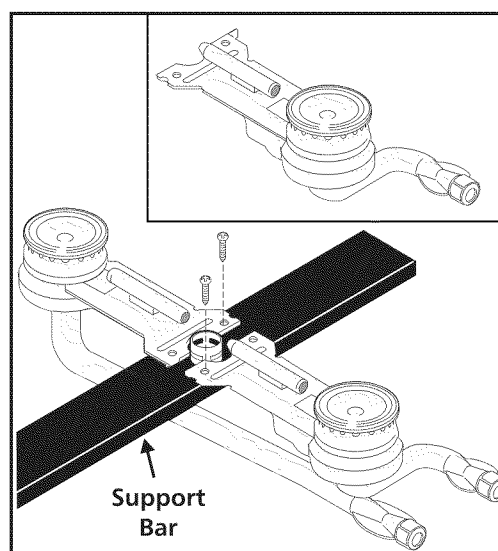

Fig. 2
1. Remove surface burner mounting screws with a Phillips-head screwdriver. See Fig. 2 for screw locations.
2. Remove 2 screws located on the inside of the oven door liner (See **A** Fig. 2)
3. Insert the 2 screws into the door hinge holes located on the side of the hinge arm, one into each hinge (See **B** Fig. 2).
5. Reinstall the 2 screws into the door liner (See **C** Fig. 2).